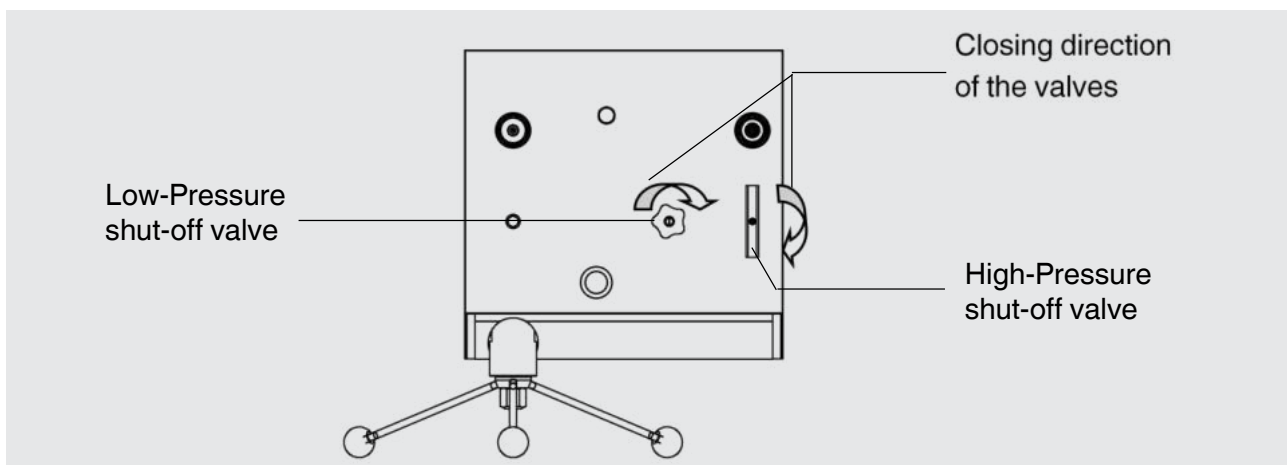

Figure 6.2.1-1 Closing Direction of the valves
Before releasing the closure plugs in the test connections, ensure that the system (spindle pump turned back completely counter-clockwise, open high-pressure shut-off valve, open low-pressure shut-off valve) is depressurised. (see Figure 6.2.1-1 Closing Direction of the valves)
- Open the high-pressure shut-off valve (see Figure 6.2.1-1 Closing Direction of the valves)
- Open the low-pressure shut-off valve (see Figure 6.2.1-1 Closing Direction of the valves)